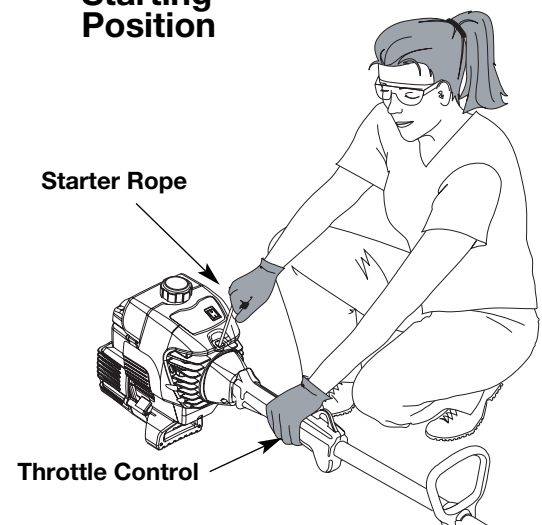

Fig. 8
WARNING: Avoid accidental starting. Make sure you are in the starting position when pulling the starter rope (Fig. 8). To avoid serious injury, the operator and unit must be in a stable position while starting.
5. Crouch in the starting position (Fig. 8) and squeeze the throttle control. Pull the starter rope briskly 3 times.